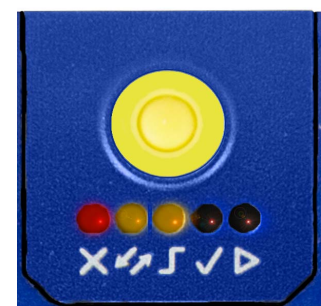

Figure 4 - X-PRESS Interface; Aim/Autofocus Function
4. Release the button to enter the Aim function. The aiming system turns on, and the Autofocus procedure begins, see Figure 4. The Aim LED will blink until the procedure is completed.